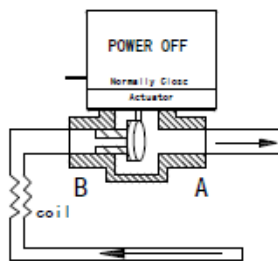

Fig.1:2-way Normally Closed to the Coil
- The flow direction is from "B" to "A", refer to figure 1.